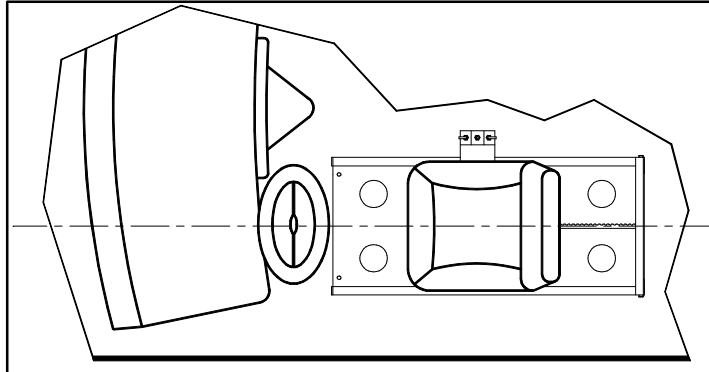

FIGURE 2-4: POWER SEAT BASE POSITION
- b. Refer to **Figure 2-4**. Position Power Seat Base at mid-position of factory seat base location (centered on steering wheel and square/parallel to vehicle wall.)